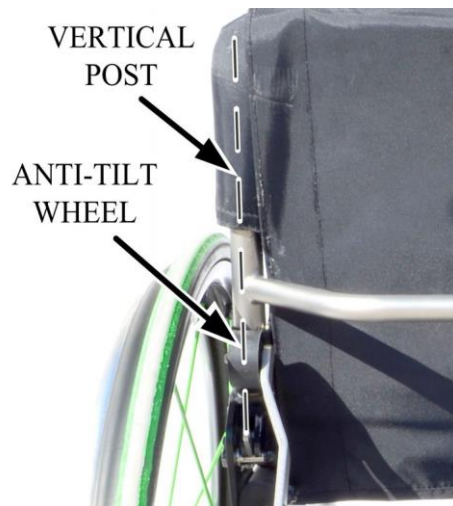

Figure 11.
7. Align ZX-1 anti-tilt wheels with wheelchair backrest vertical posts (Figure 11).